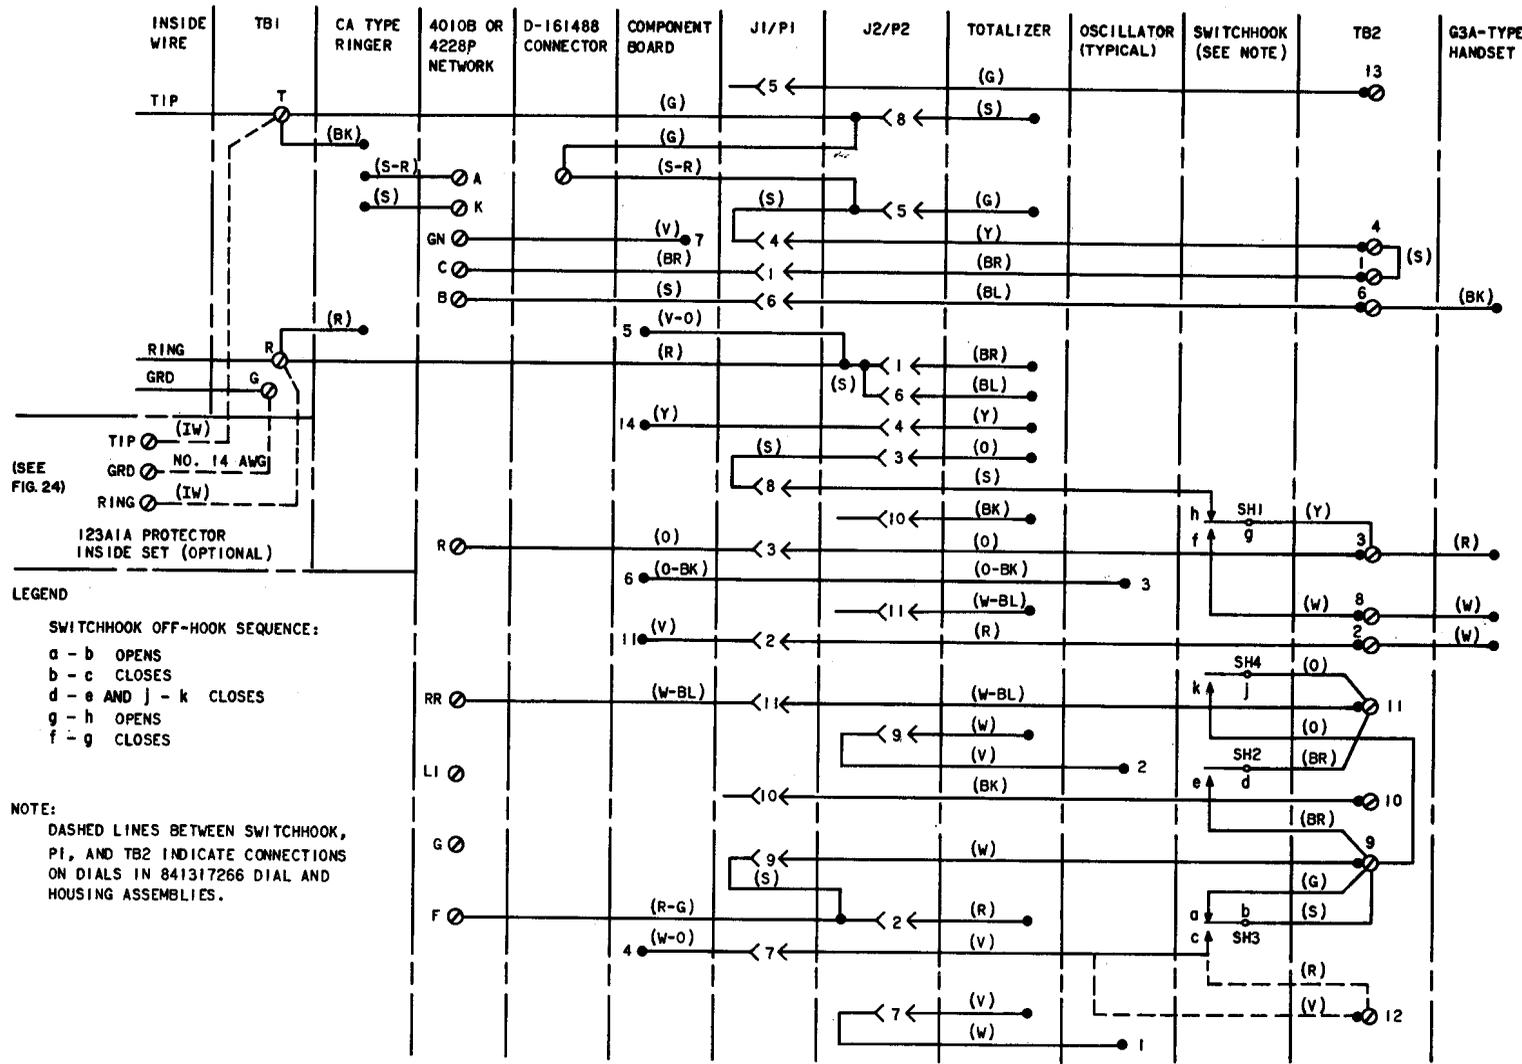

Fig. 23—1E3 Coin Telephone Set—Connections
- Fig. 23 — 1E3 Coin Telephone Set — Connections